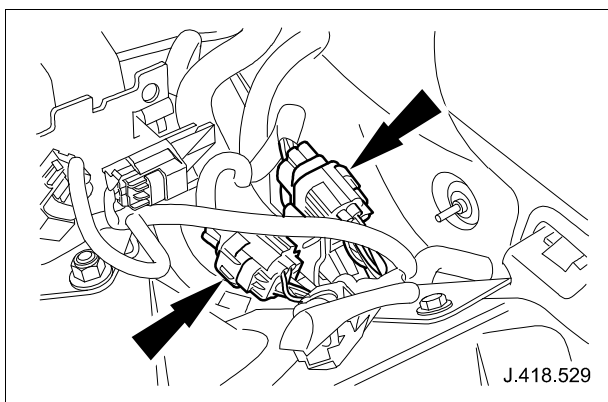

Fig. 16
- 4.4 Check engine harness to body harness connectors PI46 and PI2 for signs of water ingress. Ensure the connectors are pushed fully home and are not damaged i.e. bent/backed-out. Where available, utilize opposing pins from the harness repair kit and insert into populated pins to ensure a good/tight fit is achieved. (See Fig. 16)